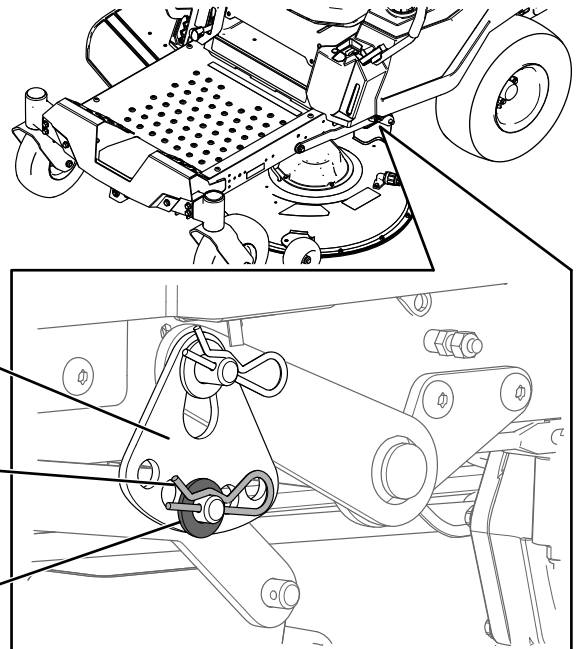

Figure 73
6. Remove the hairpin cotter and washer from the lower lift-arm pin (Figure 73).